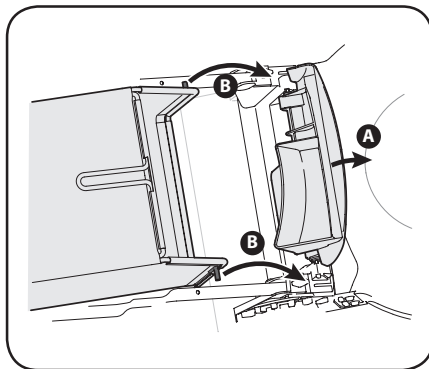

Figure 2-8
2. Follow steps below to attach grass catcher: See Figure 2-8.